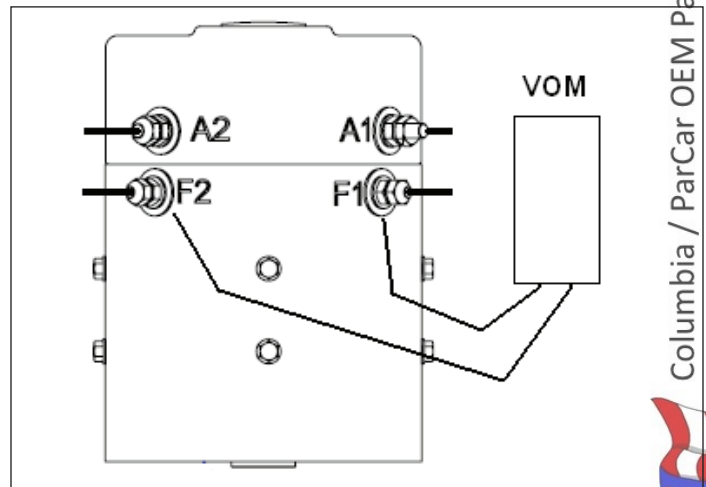

Figure 10-15. Testing for Continuity Between Motor Frame and Field Coil
There should be no continuity between the frame (7) of the motor and field coil (9) (Figure 10-10). Set the volt ohm meter (VOM) to measure Ohms. See Figure 10-15.